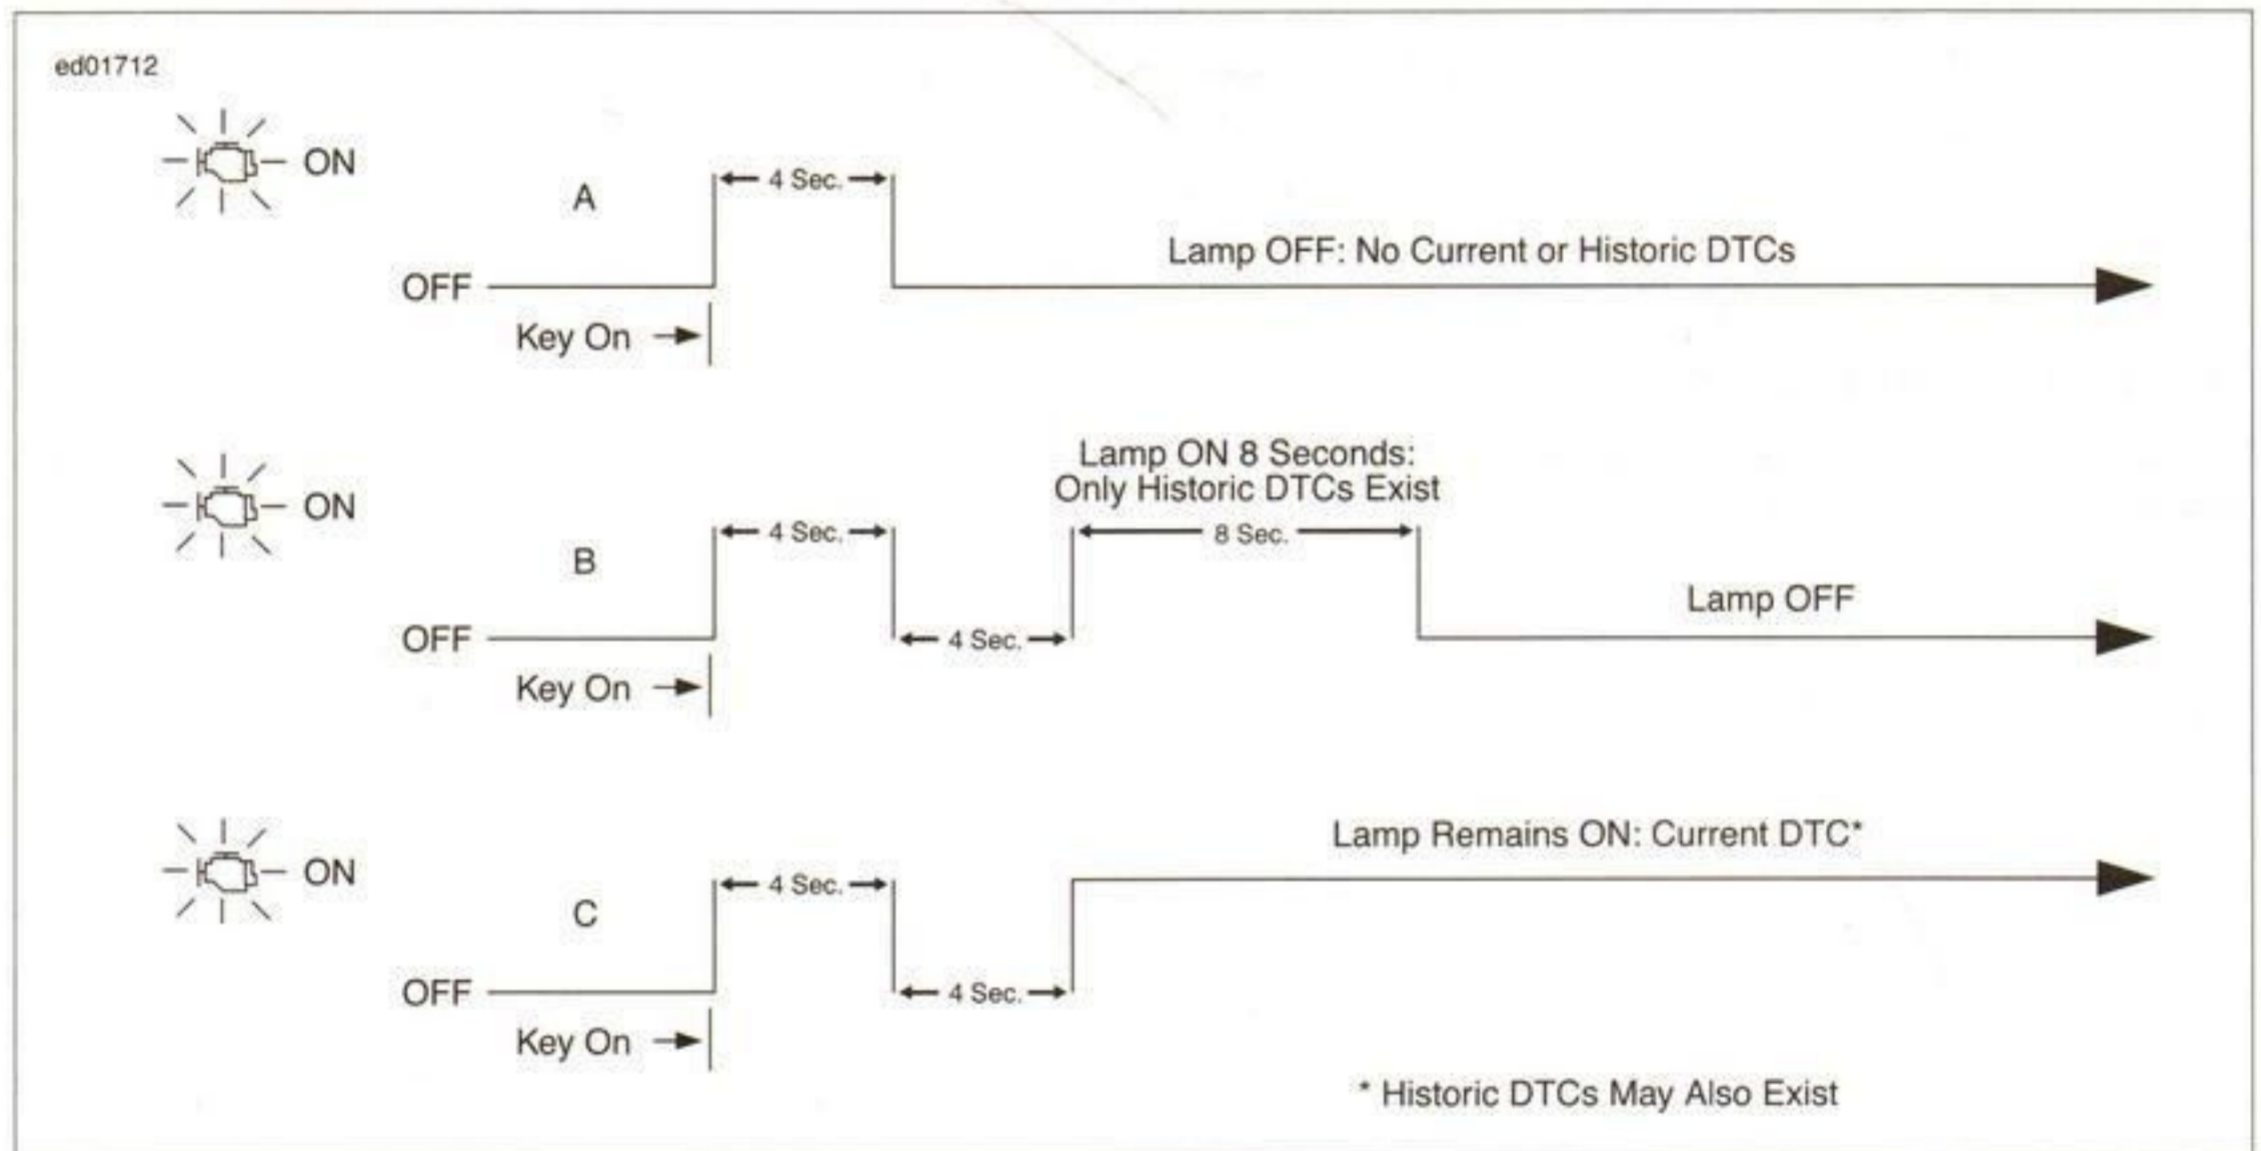

Figure 2-3. Check Engine Lamp Operation
- See Figure 2-3. If multiple DTCs are present, use DIGITAL TECHNICIAN II (Part No. HD-48650) to determine which DTCs are current or historic.